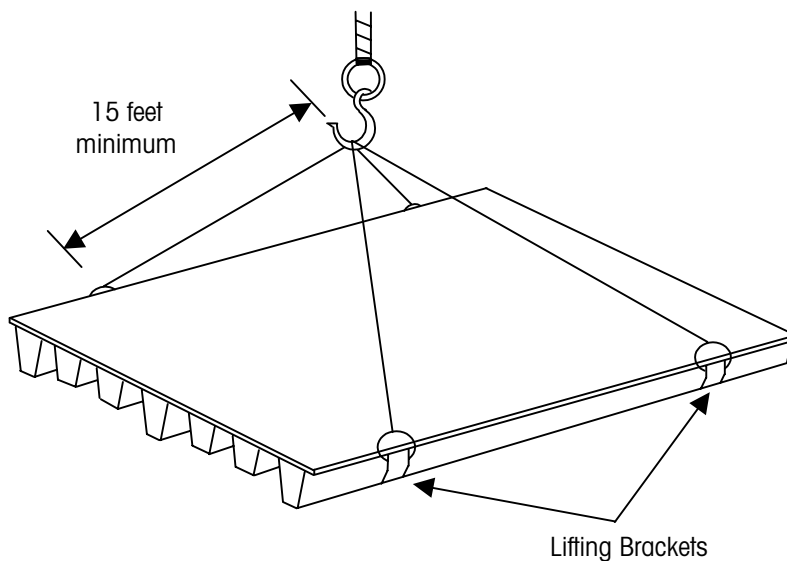
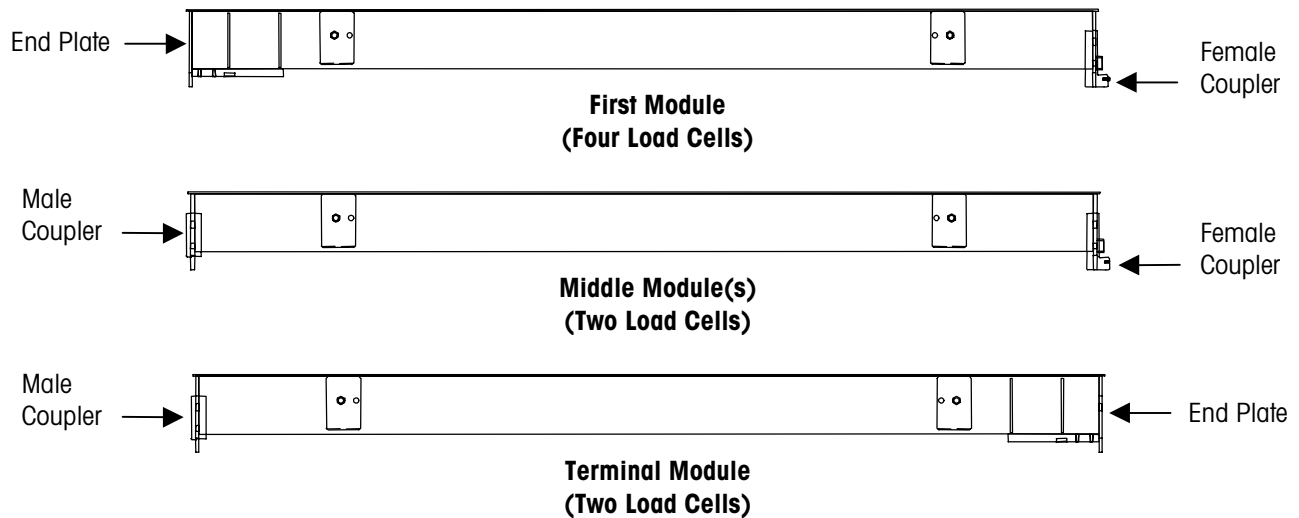

Figure 3-1: Module Lifting Procedure
Figure 3-2: Types of Modules (Side View)
If a METTLER TOLEDO truck is delivering the 7566 truck scale, the METTLER TOLEDO driver will handle and supervise unloading. Otherwise, unload the modules by lifting them with a quadlift chain attached to the lifting brackets as shown in Figure 3-1. Approximate module weights are listed in Table 3-1.
Figure 3-2 shows the three types of modules. Make sure that the bottom module is stored off the ground. We recommend placing lengths of 4 x 4 lumber under the module to support it. Place additional lengths of 4 x 4 lumber between each pair of modules. Store all other mechanical accessories, electrical instrumentation and load cells in a clean, dry area. If the modules will be stored for more than one month, the cable connectors should be filled with connector dielectric compound (TN203056).
- a. The First Module to be set in place is the module that requires four load cells (see Figure 3-2). Lift the module as shown in Figure 3-1. Before setting this module in place, make sure that the end bumper assembly has been installed. Position the module so that the end with the female couplers faces away from the approach wall. The first module should be reasonably square with the end wall and spaced away from the end wall as shown in the assembly drawing.